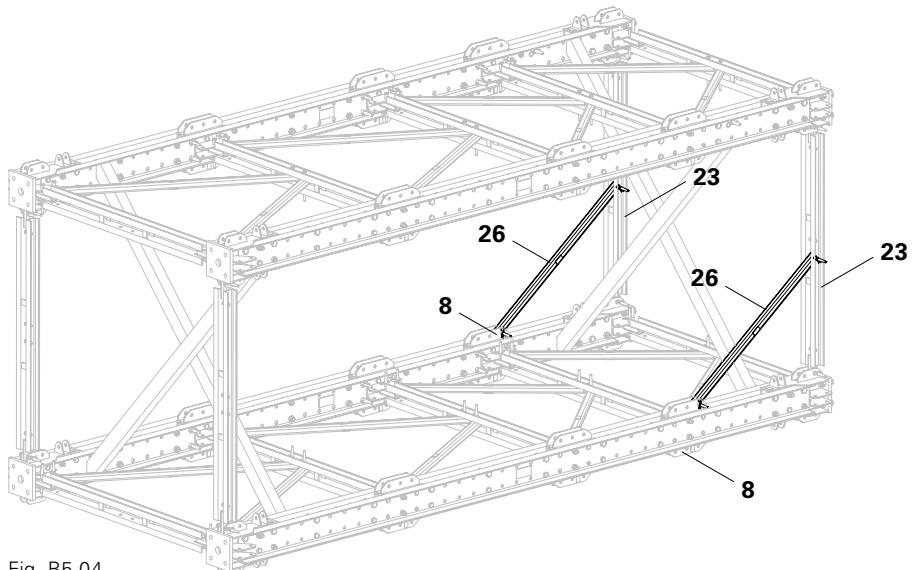

Fig. B5.04
1. On each side, insert 1x Diagonal Strut VST (26)\* into the Horizontal Ledger VST 200 (23).
2. Connect the Diagonal Strut VST (26) to the Bracing Connector VST (8) and Horizontal Ledger VST 200 (23) using 1x Fitting Pin Ø 21 mm (9) each. (Fig. B5.04)